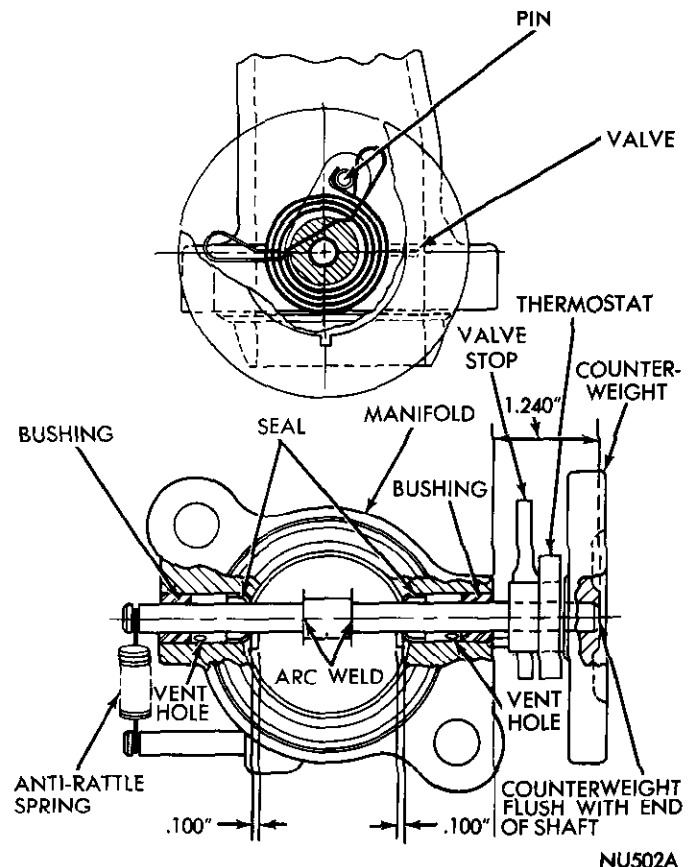

Fig. 13—Proper Manifold Heat Control Valve Installation (318 Cubic Inch Engines)
- (1) Remove exhaust pipe from manifold.
- (2) Remove exhaust manifold from engine.
- (3) Position valve plate, grind off spot welds from valve plate and shaft.
- (4) Remove counterweight and shaft assembly, valve plate. Press out bushings and seals from manifold (Fig. 13).
- (5) Inspect vent holes and clean out if necessary.
- (1) **Press** in cup seals until seals extend into manifold .100 inch on each side with cupped ends facing outward (Fig. 13).
- (2) **Press** in bushings flush with outer edge of exhaust manifold.
- (3) Line ream bushings and seals, .3095 to .3110 inch diameter. Test for free operation of shaft in bushings and seals.
- (4) Mark one end of shaft with a suitable dye at 1.240 inches, press counterweight on marked end of shaft until flush with end of shaft.
(5) Position thermostat so center end or tab is pointing **left** and hook or outer end points **down**, install thermostat on counterweight.
(6) Install valve stop on counterweight so looped ends face away from thermostatic spring hook end.
(7) Holding thermostatic spring wrapped 140 degrees in a **counterclockwise** direction viewed from counterweight end, install shaft assembly through outer bushing, seal and valve plate with center strap facing flange end of manifold; attach hook end of thermostatic spring to stop pin.
(8) With counterweight end of shaft positioned 1.240 inches (previously identified) away from manifold, valve plate centered between seals and valve plate closed (Fig. 13).
(9) Arc weld valve plate to shaft with stainless steel rod. **Arc welding ground must be made at counterweight.**
(10) Test for free operation. Install anti-rattle spring.
(11) Position new gasket on studs. Install exhaust manifold and tighten to 20 foot-pounds.
(12) Install exhaust pipe to manifold (no gasket used) and tighten to 24 foot-pounds.